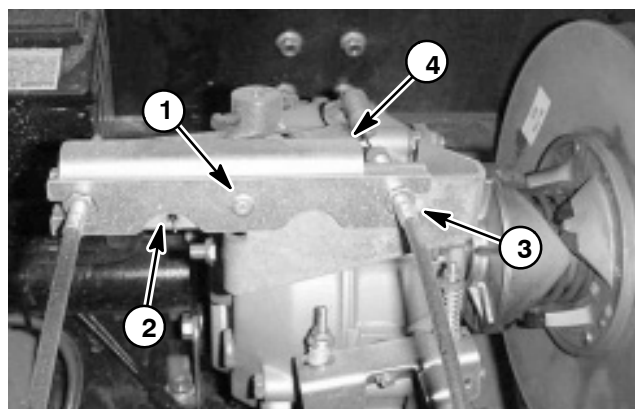

Figure 4
6. If ground speed adjustment is necessary, drill out anodized rivet and retain anti-tamper bracket for reinstallation (Fig. 4).
7. Adjust throttle cable (accelerator pedal to transaxle) at the cable bracket until the correct driven clutch RPM is obtained with the accelerator pedal fully to the floor (Fig. 4).
8. Reinstall anti-tamper bracket to the cable bracket with a new anodized rivet (Toro P/N 99-7122) (Fig. 4).
Two Clutch System (Fig. 4)